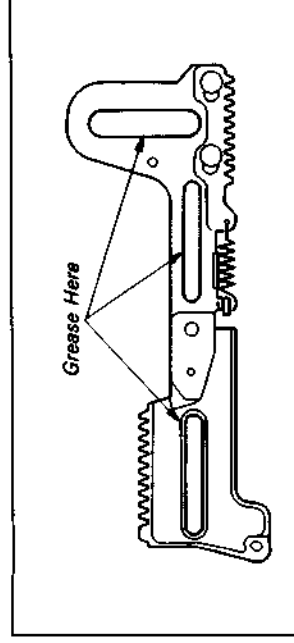

Fig. 7-31.
- 1) Lubricate the portions indicated in Fig. 7-31.